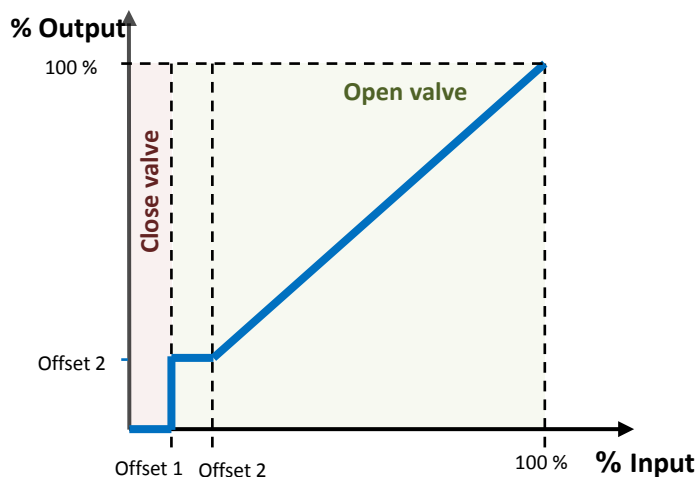

Figure 7 Output percentage value depending on the input setpoint and the offsets.
- The **minimum value of the control variable** that should activate the fan, i.e., the minimum percentage value that will be required to make the actuator actually operate the fan; values under that minimum will be ignored by the actuator. This is called “Offset 1” in Figure 7.
- The **minimum fan speed**, i.e., the minimum voltage (in percentage) that permits appreciating motion in the fan. This parameter is useful when the fan is not able to effectively start motion with voltage values lower than a certain percentage. This is called “Offset 2” in Figure 7.